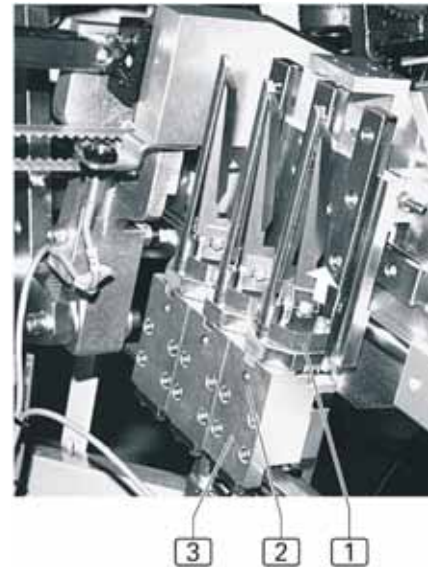

fig. 13
2. **fig. 13:** Loosen the grub screw [2].